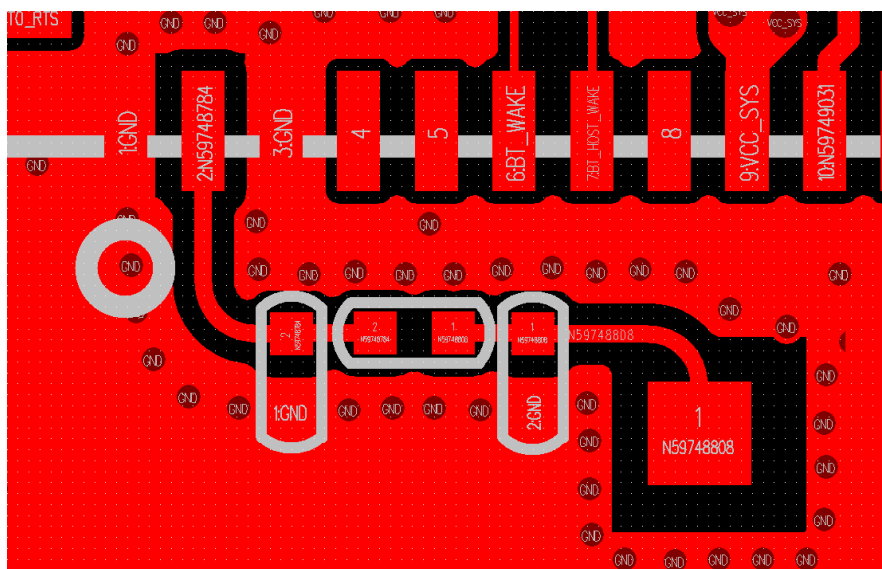

Figure 23-15
- When the antenna needs to swerve, please trace with arc but not at corner, shown as Figure 23-15, and Figure 23-14 is the wrong layout.